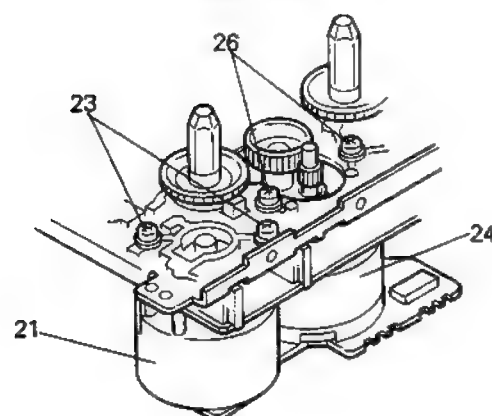

Fig. 7-27
■ Reel and Actuator motor assembly (Fig. 7-27, 7-28)
1. Remove four screws (23, 26) retaining the reel motor (21) and the actuator motor assembly (24). (Fig. 7-27)